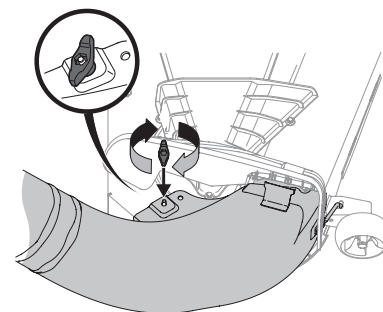

Figure 18
- Secure the boot elbow to the cutting deck using a wing knob (720-04122) included in hardware pack (689-02364). Refer to Figure 18.